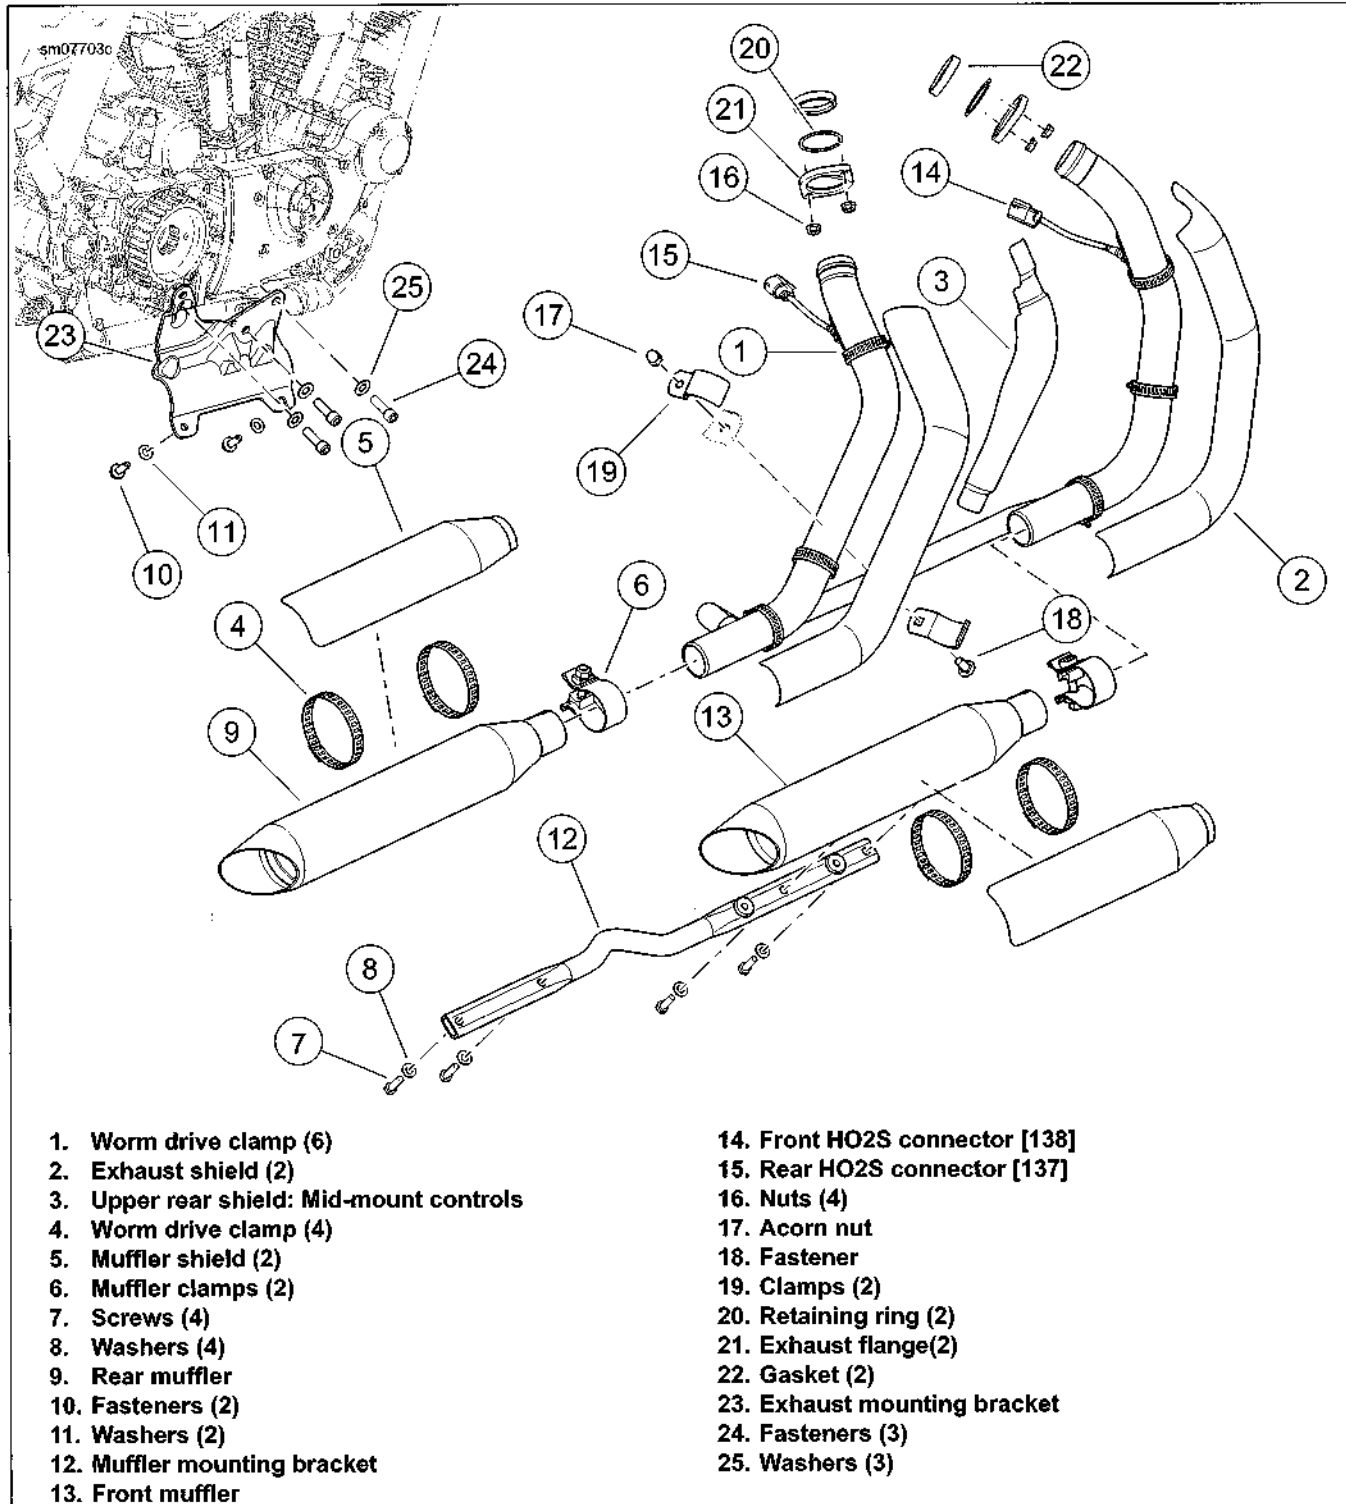

Figure 4-36. Exhaust System
1. See Figure 4-36. Open worm drive clamps (1).
2. Remove exhaust shields (2) and clamps.
3. **Mid-mount controls:** Remove the upper rear shield (3).
1. See Figure 4-36. Open worm drive clamps (4).
2. Remove muffler shields (5) and clamps.
3. See Figure 4-36. Loosen muffler clamps (6).
4. Remove rear muffler screws (7) and washers (8). Remove rear muffler (9).
5. Remove fasteners (10) and washers (11) securing muffler mounting bracket to exhaust mounting bracket.
6. Remove front muffler (13) and mounting bracket (12).
2. See Figure 4-36. Separate front HO2S connector [138] (14).
3. Separate rear HO2S connector [137] (15).
4. Remove nuts (16) from front and rear cylinder head studs.